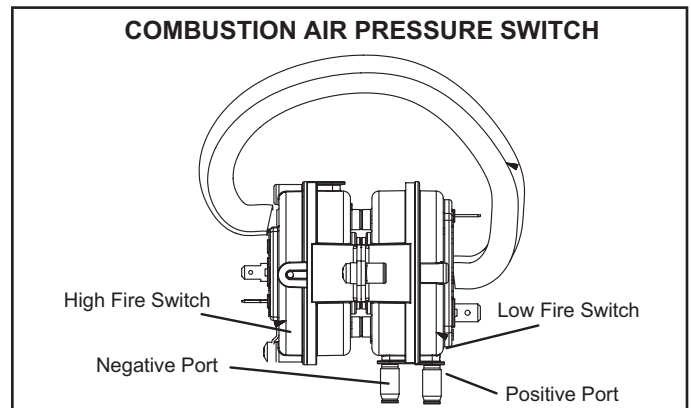

FIGURE 17
EL296UHV(X) series units are equipped with a dual combustion air pressure switch (first and second stage) located on the combustion air inducer orifice bracket. See FIGURE 17. The switch is connected to the combustion air inducer housing by means of a flexible silicone hose. It monitors negative air pressure in the combustion air inducer housing.